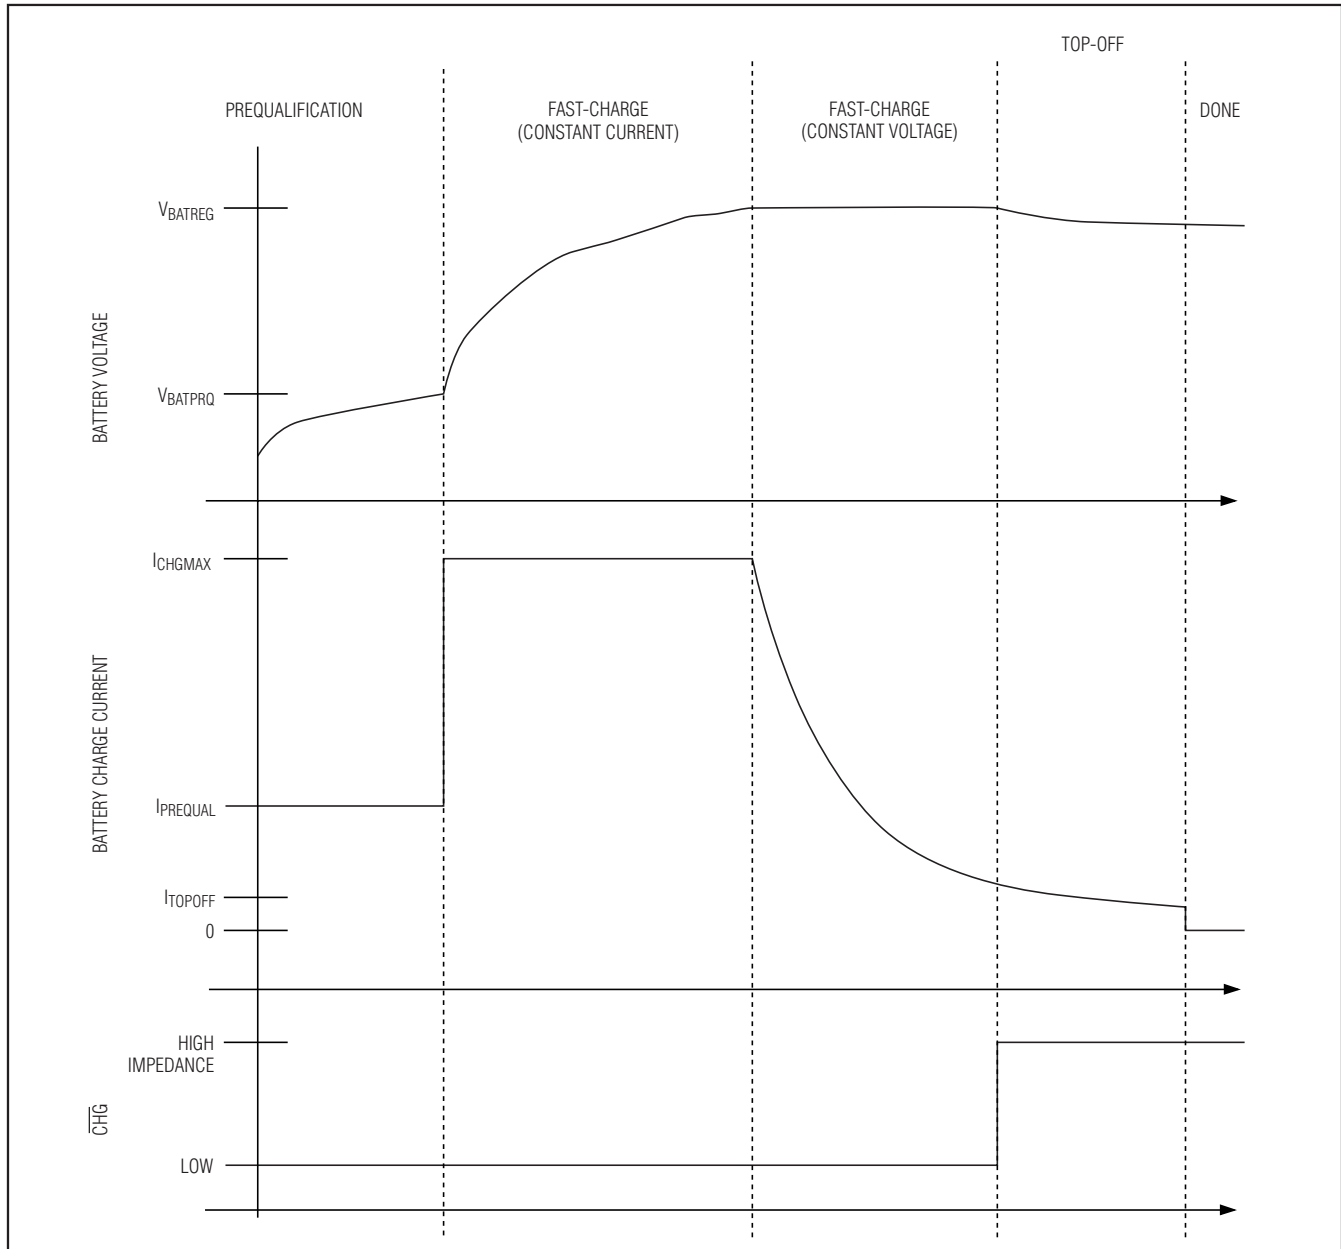
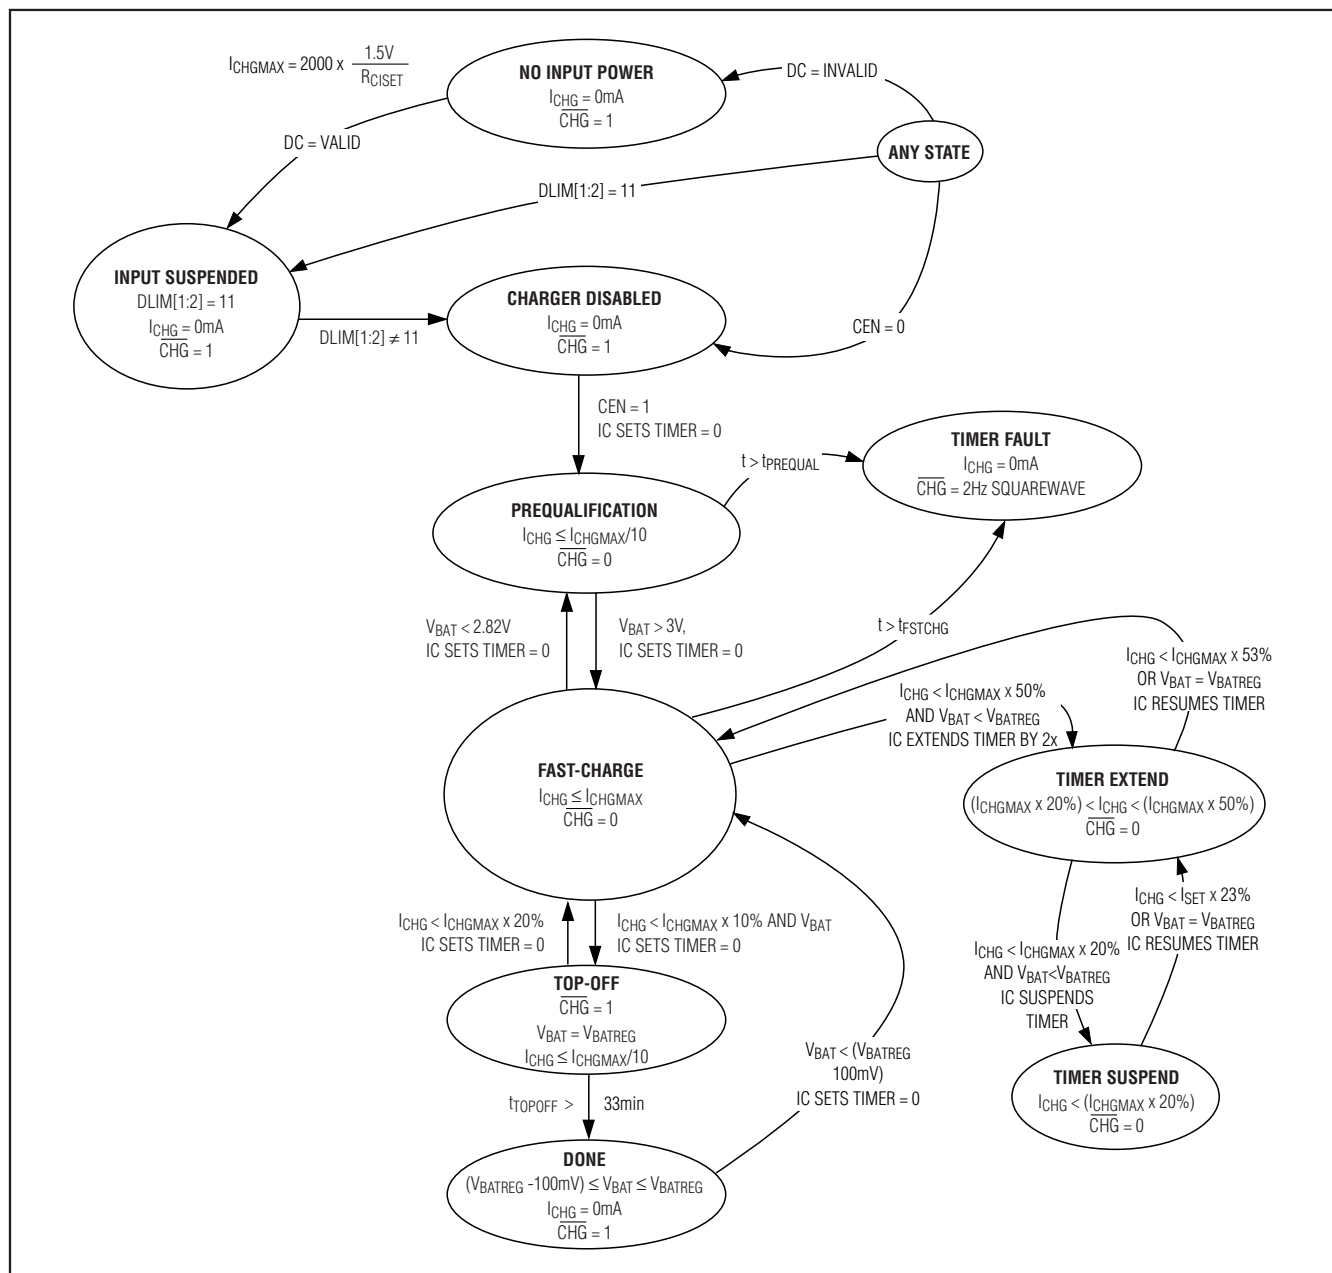

Figure 2. Li+/Li-Poly Charge Profile
Figure 3. Li+/Li-Poly Charger State Diagram
Figure 2 shows the typical Li+/Li-Poly charge profile for the MAX8819, and Figure 3 shows the battery charger state diagram.
- The battery charger stops charging in done mode as shown in Figures 2 and 3.
$\overline{CHG}$  is an open-drain, active-low output that indicates charger status. As shown in Figures 2 and 3,  $\overline{CHG}$  is low when the charger is in its prequalification or fast-charge states. When a timer count is exceeded in either state,  $\overline{CHG}$  indicates the fault by blinking at a 2Hz rate and remains in that state until the charger is reset by CEN going low, removal of DC or setting  $DLIM[1:2] = 11$ .
As shown in Figure 3, a fault timer prevents the battery from charging indefinitely. In prequalification mode, the charge time is internally fixed to 33min.
While in the constant-current fast-charge mode (Figure 2), if the MAX8819\_ reduces the battery charge current due to its internal die temperature or large system loads, it slows down the charge timer. This feature eliminates
nuisance charge timer faults. When the battery charge current is between 100% and 50% of its programmed fast-charge level, the fast-charge timer runs at full speed. When the battery charge current is between 50% and 20% programmed fast-charge level, the fast-charge timer is slowed by 2x. Similarly, when the battery charge current is below 20% of the programmed fast-charge level, the fast-charge timer is paused. The fast-charge timer is not slowed or paused when the charger is in the constant voltage portion of its fast-charge mode (Figure 2) where the charge current reduces normally.